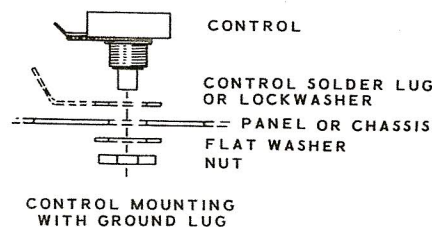

Figure 4
- ( ) Mount a 40  $\Omega$  wire-wound control at location Q, using a lockwasher between the control and the chassis and a 3/8-32 nut on top of the chassis, as illustrated in Figure 4. Orient the lugs as shown. (Bend the lugs upward if necessary to clear socket A.)